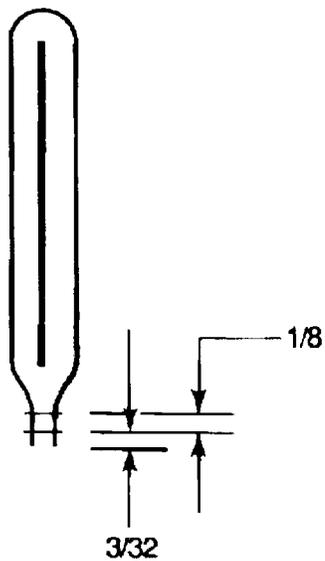

Figure 2. Sewing of Drogue Riser Sleeve
c. Fold cut pieces in half, lengthwise, finish side facing outside, using size E thread, sew together with two rows of stitching 3/32-in. from edges and 1/8-in. between rows of stitching (Figure 2).